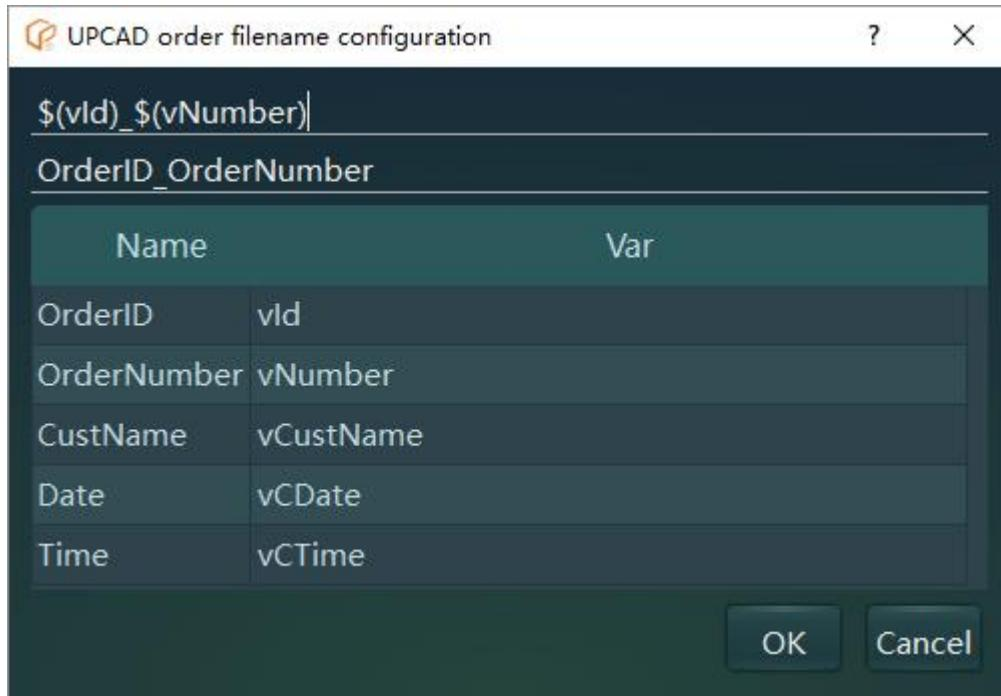

Figure 2-11
(5) UPCAD order path filename format: folder names used to personalize the storage order (Figure 2-11)